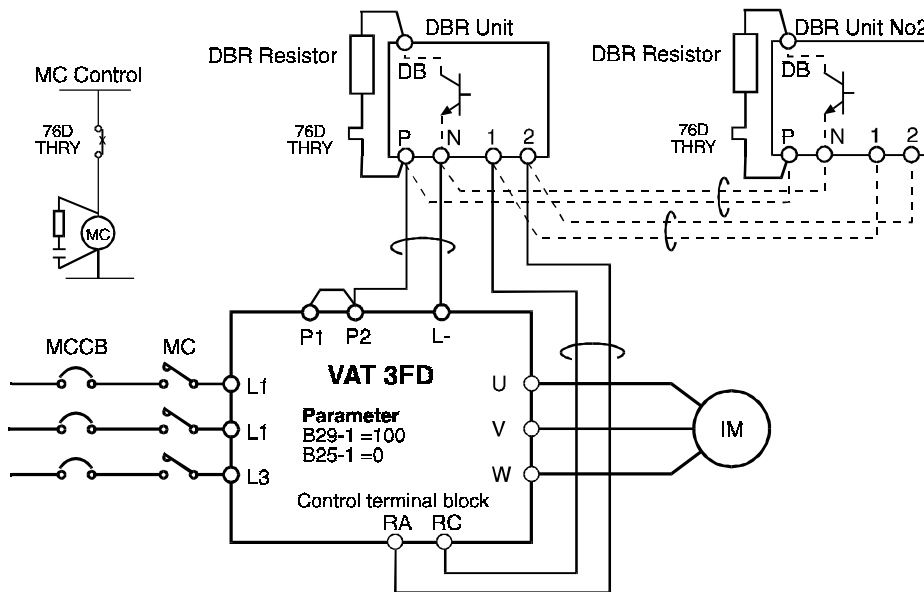

Fig 7-1
- Connect the DBR unit according to Fig. 7.1.
- If the regenerative capacity is insufficient with one DBR unit, connect the DBR units in parallel as shown in Fig. 7.1
8. The minimum resistance value of the resistor that can be connected to the DBR unit is 3,3 Ohms. If the calculated value is lower than this (for units X3600, X4000) increase the No. of DBR units installed, (parallel connection, Fig 7-1).